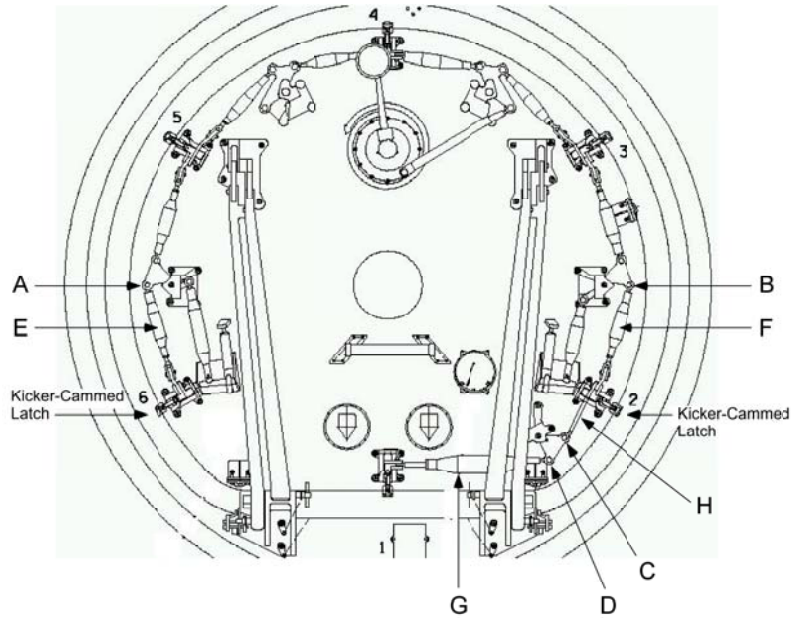
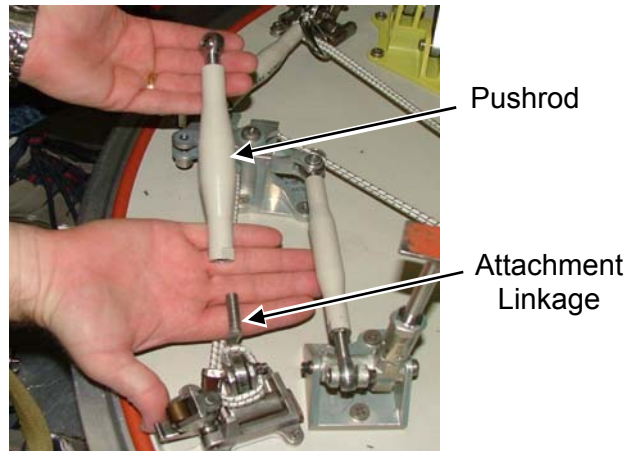
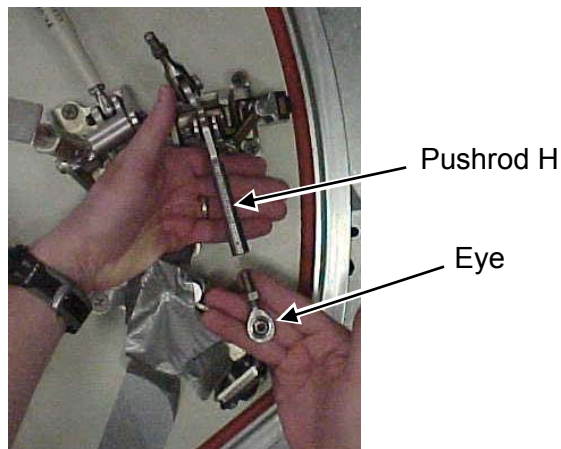

Figure 1
Figure 3
Figure 4
4. Remove bolt lock wires at locations labeled A, B, C, and D (fig 1) (Wire Cutters)
5. Remove latch linkage Hex Head Bolts at locations labeled A, B, C, and D (fig 1) (7/16-in Std Socket and 1/4-in Drive Ratchet Wrench)
7. Remove pushrods labeled E, F, and G (fig 1) by unscrewing from attachment linkage (fig 3)
8. Remove eye from pushrod labeled H (fig 1) using 7/16-in Combination Wrench (fig 4)